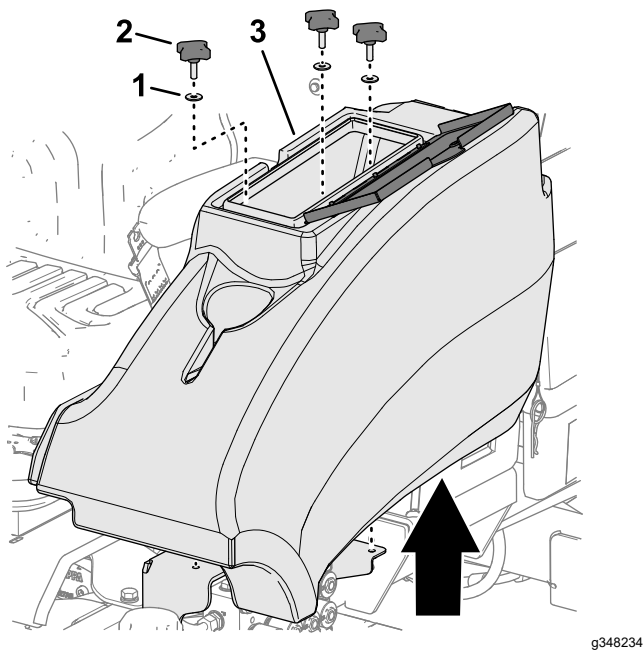

Figure 56
- At the left side of the operator's platform, open the door of the storage compartment (Figure 56).
- Remove the 3 knobs and 3 washers that secure the storage compartment to the machine, and remove the compartment (Figure 56).